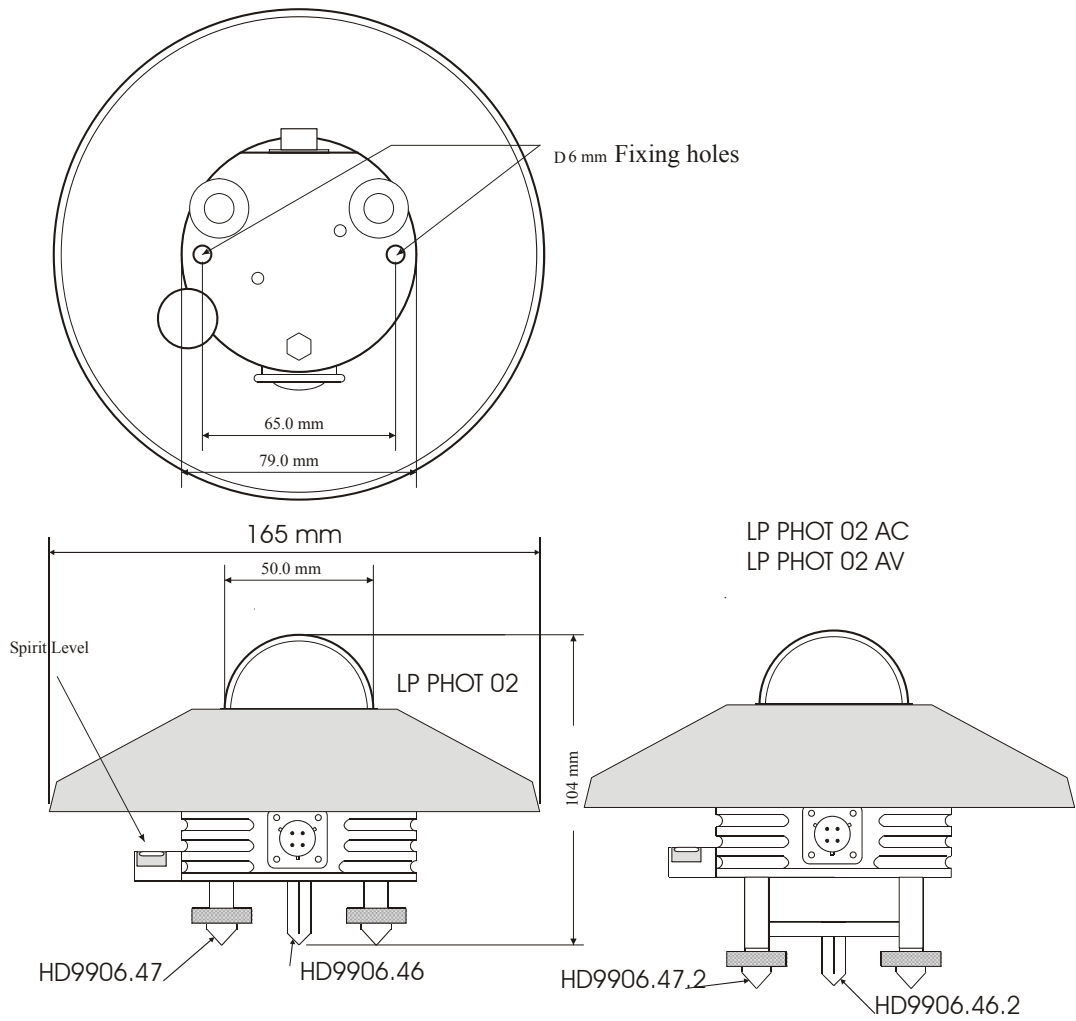

Fig 4
- For a correct horizontal placing, LP PHOT 02 is provided with a bubble level; inclination adjustment of the luxmeter is made by means of two leveling screws. Use the two 6mm-diameter screw holes with an interaxial distance of 65 mm, to mount the instrument on a plane. To access the holes, remove the shade disk and reposition it after mounting (see fig. 4).
Dimensions:	fig. 4